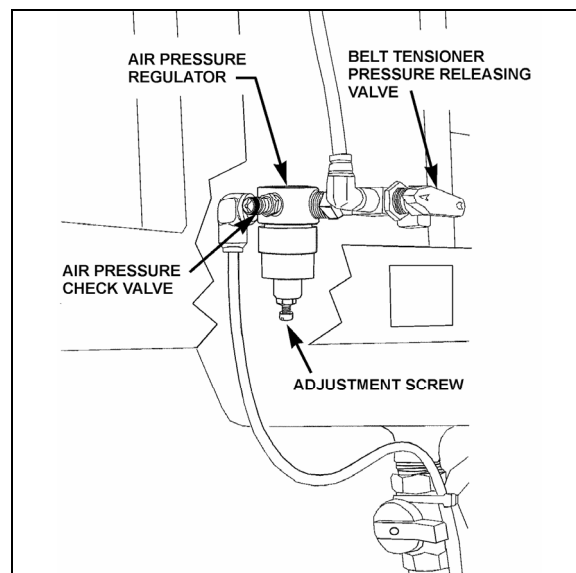

FIGURE 18: AIR PRESSURE REGULATOR
1. Open engine compartment rear doors and locate the belt tensioner pressure releasing valve (Fig. 18), mounted above the engine R.H. side door next to the air pressure regulator, then turn handle clockwise in order to release pressure and tension on belts.
3. Reset belt tensioner pressure releasing valve (Fig. 18) to 45 psi (310 kPa) to apply tension on the new belts as explained in Section 12.